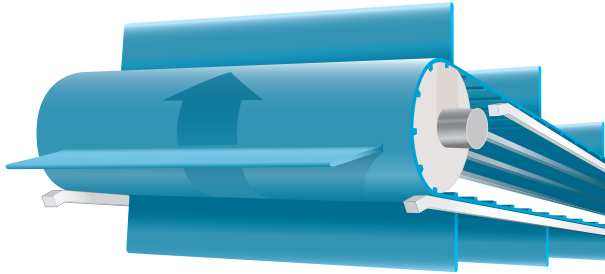

Figure 34
- Consider using continuous support rails at belt edges for returnway support (Figure 34).
- ◊ Chamfer the support rail infeed and outfeed ends to eliminate catch points (Figure 34).